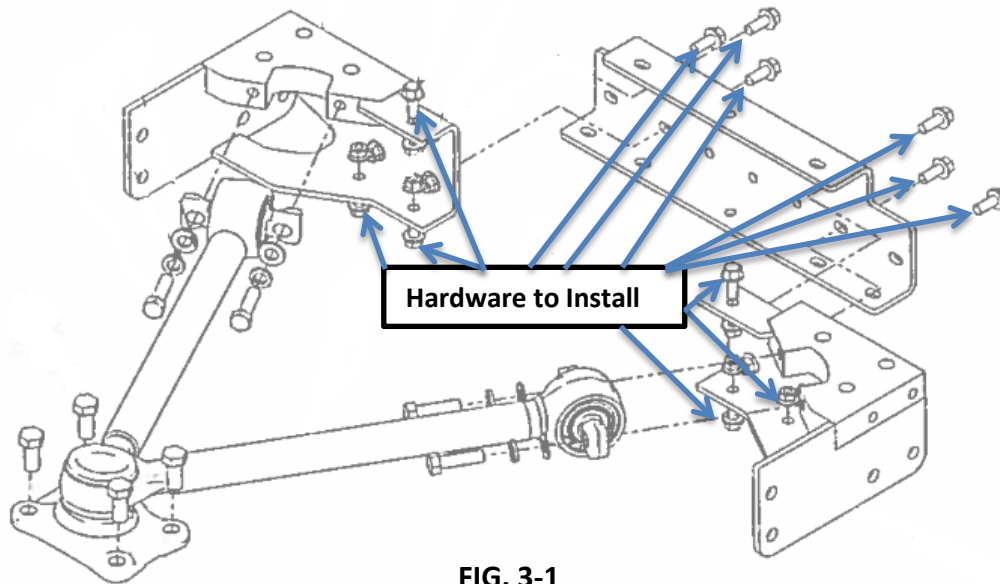

FIG. 3-1
4. Install supplied hardware as shown in FIG. 3-1.
5. If the hardware can be installed as in FIG. 3-1, torque the nut side to 80 ft.-lbs.
6. If the hardware cannot be installed as shown in FIG. 3-1, and has to go the opposite direction, torque the bolt side to 93 ft.-lbs.